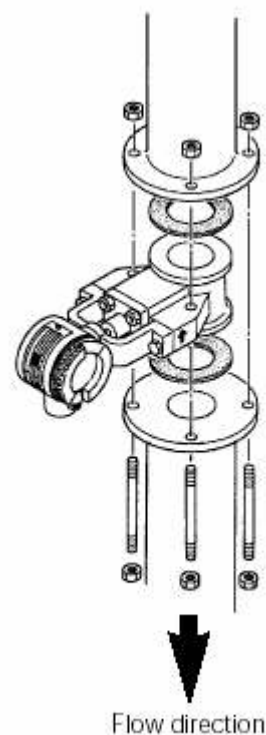

Figure 3-19
1. Insert two stud bolts in the bolt holes on the flowmeter shoulder to align the instrument body with the inner diameter of the adjacent piping (see fig. 3-19).